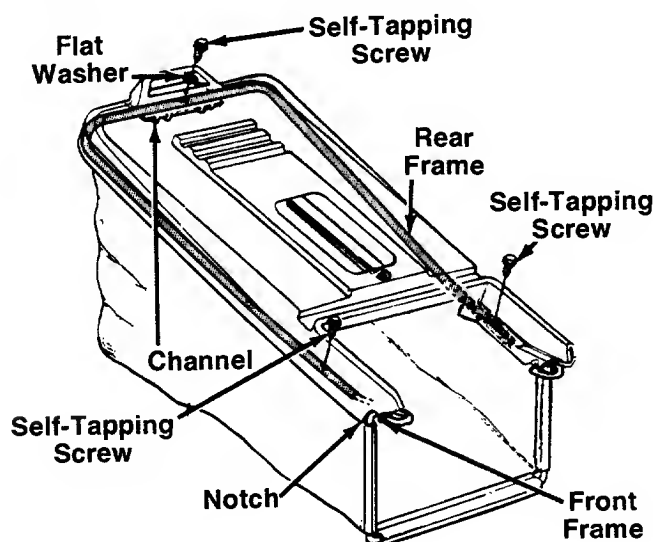

FIGURE 9.
4. Attach the hardtop cover to the grass catcher as follows. See figure 9.
- c. Attach rear of cover to frame using the flat washer and one self-tapping screw as shown in figure 9. Attach the sides of the cover to frame with the other two self-tapping screws.